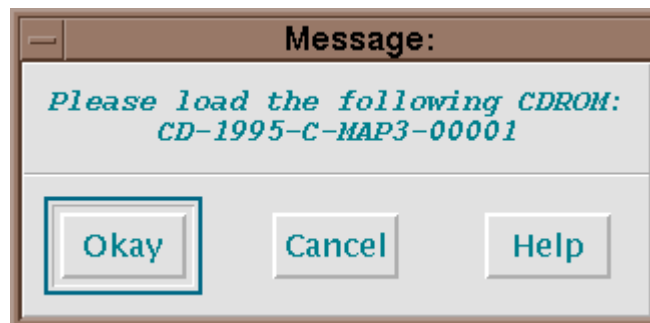

Fig. 58 – MMC prompt to load CAC CD
4. MMC will prompt the user to load the appropriate SCAC CD (Fig. 58); load it into the CD-ROM drive (Section 4.1).